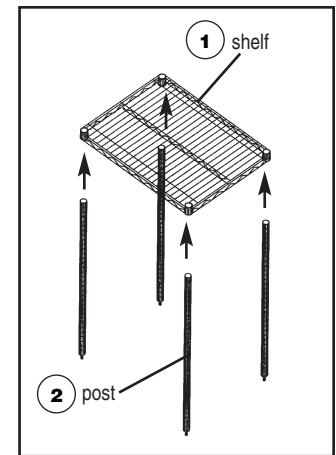

figure 2
- Take (1) shelf and insert posts through the collar from the bottom until split sleeves are snugly seated within collars as shown in figure 2. Place retaining rings off to the side until later.